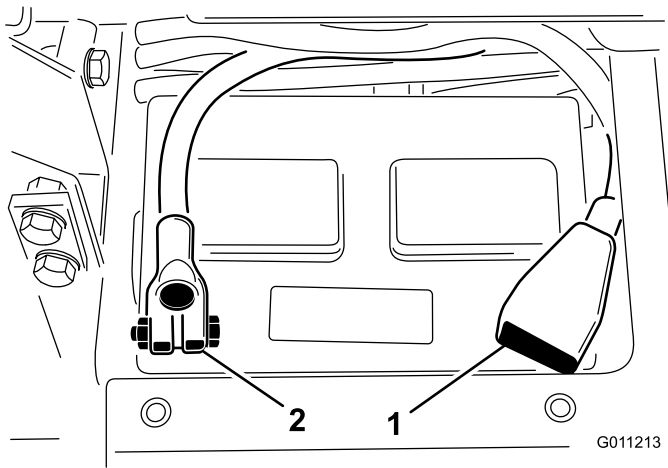

Figure 5
- Install the positive cable (red) to the positive (+) battery terminal, and secure them with T-bolt and nut (Figure 5).
- Install the negative cable (black) to the negative (-) battery terminal of the battery, and secure them with T-bolt and nut (Figure 5).